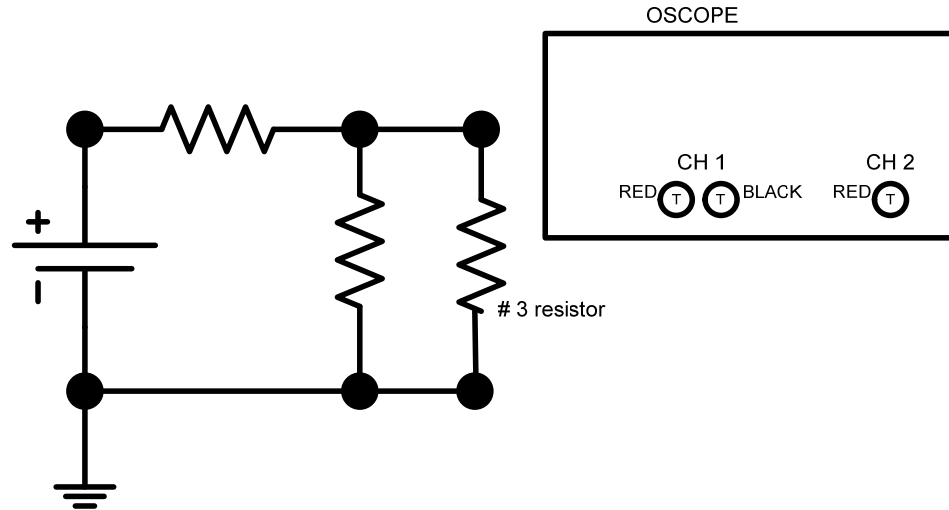

Figure 1
- Indicate on the circuit below (figure 1) how you connect CH 1 in order to measure the voltage across the voltage source.
- Indicate on the circuit above (figure 1) how you connect CH 2 in order to measure the voltage across the #3 resistor while CH 1 is still measuring the voltage source.